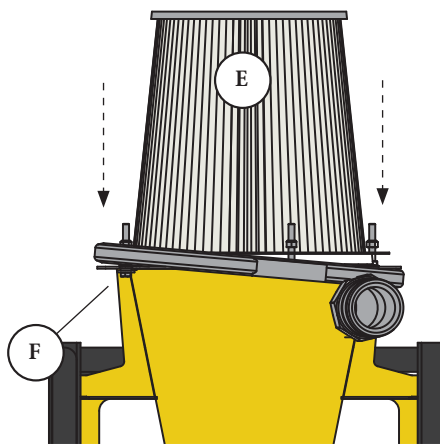

FIG. 5
Open and slide the Ring Clamp (E) over the assembly so that it rests outside the upper flange of the Cyclone [FIG. 5].